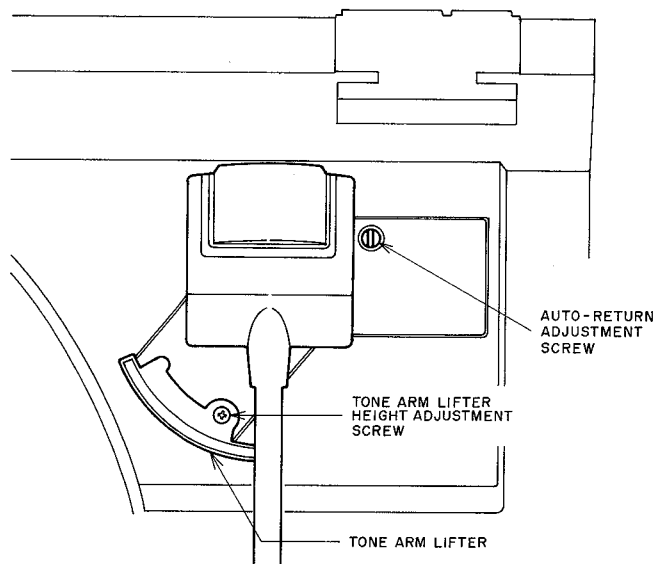

Fig. 6-1
* WHEN AUTO-CUT (Auto-Return) MODE (Refer to Figs. 6-1 and 6-2).
(Refer to Fig. 6-1)